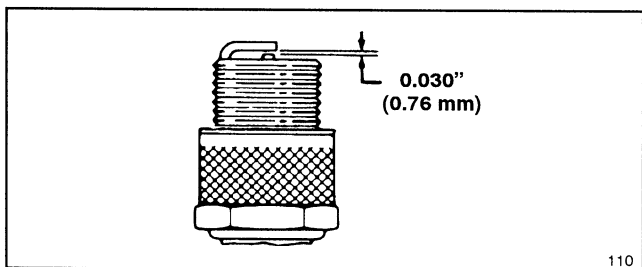

Figure 17
3. INSTALL SPARK PLUG—Set air gap (Fig. 17) between electrodes at .030" (.76 mm). Install plug and tighten to 15 ft-lb (20.4 N-m). If torque wrench is not used, tighten plug firmly with wrench by hand; **DO NOT OVERTIGHTEN**. Push wire onto spark plug and reinstall control panel.